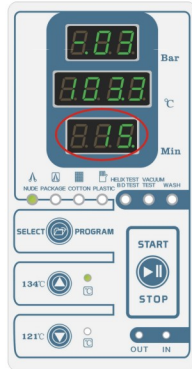

Fig. 5.4-8-1
(12)***Drying stage:***when the pressure in chamber down to 0.0bar,the vacuum pump start working.time display window show “15” (Drying time of three times pre-vacuum program is 15Min)or “9” (Drying time of one times pre-vacuum program is 9Min).(Fig.5.4-8-1、 Fig.5.4-8-2)